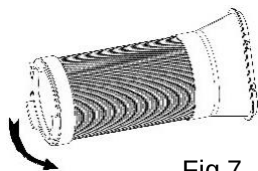

Fig.7
- Fix the round end of the connected exhaust pipe at the air outlet of the air conditioner (Fig.7 & 8).